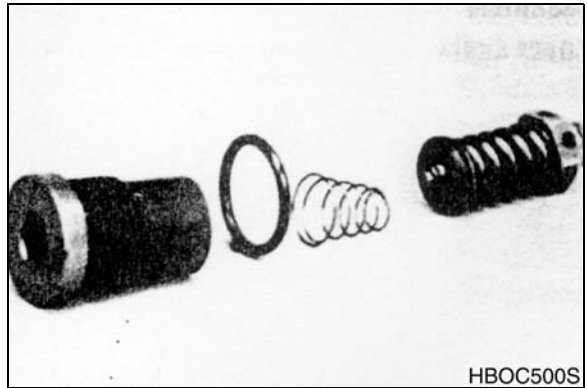

Figure 64
22. If relief valve components items #21, #22, #24 were removed from the end cover (2) assemble a new O-ring (22) on the two plugs (21). Assemble a two piece relief valve (24) in each of the plugs, with the large end of the conical spring into the plug first and the small nut of the other valve piece in the small end of the conical spring. Turn each of the plug and relief valve assemblies into the end cover loosely to be torque later. 3/8 inch allen or 1 inch Hex socket required. See Figure 64.